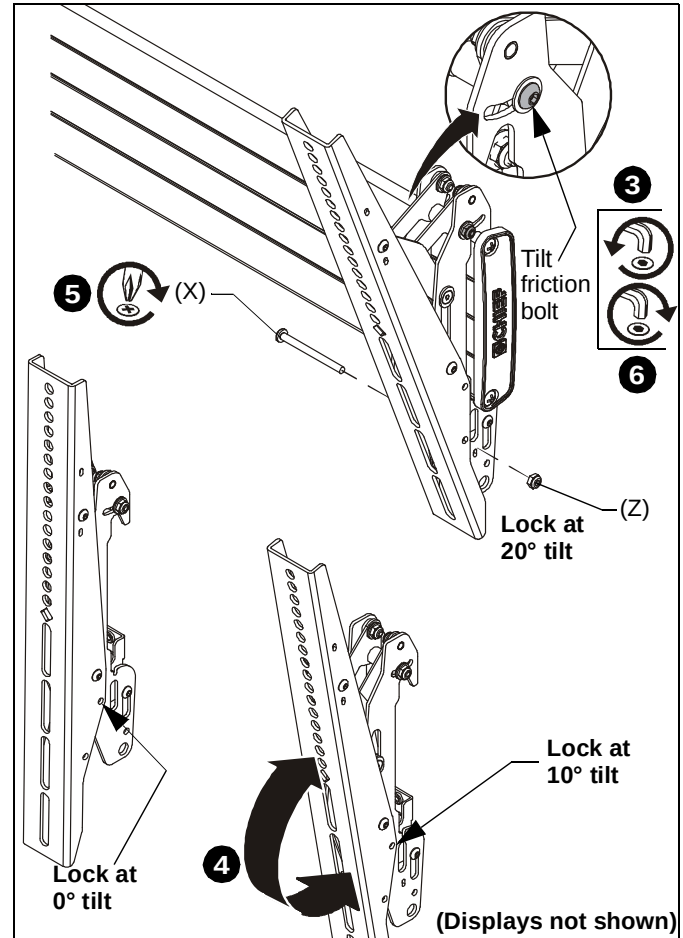

Figure 12
3. If necessary, loosen button head tilt friction bolt (located on side of interface bracket). (See Figure 12)
4. Adjust tilt as required. (See Figure 12)
5. The tilt may be locked at 0°, 10° and 20° using one 10-24 x 2-1/4" Phillips head screw (X) and one 10-24 lock nut (Z) per interface bracket. (See Figure 12)